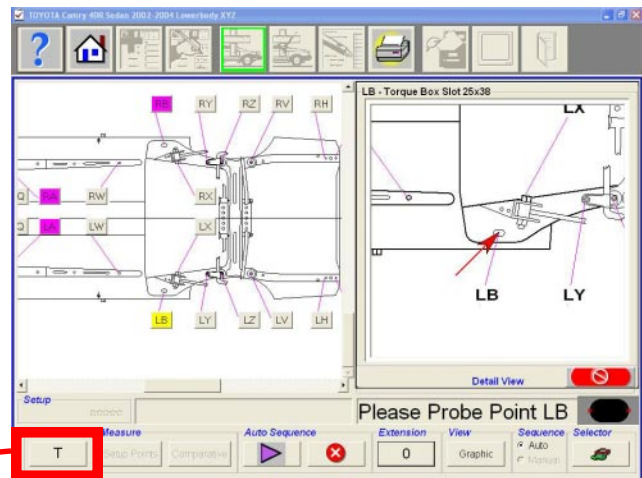
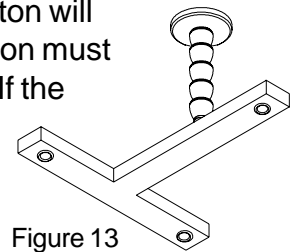

Figure 12
Figure 13
Select the desired reference frame type with button highlighted in Figure 12.
NOTE: Before proceeding vehicle measurement, make sure that the correct reference frame to be used has been identified in the measure screen. The icon button will toggle between the two choices (T and X). See Figure 12. Special attention must be made to prevent moving the frame once measurements have begun. If the frame is disturbed, *all readings* must be repeated. Figure 13
3. The screen will be split into two zoom areas of the first point to measure. See Figure 12.